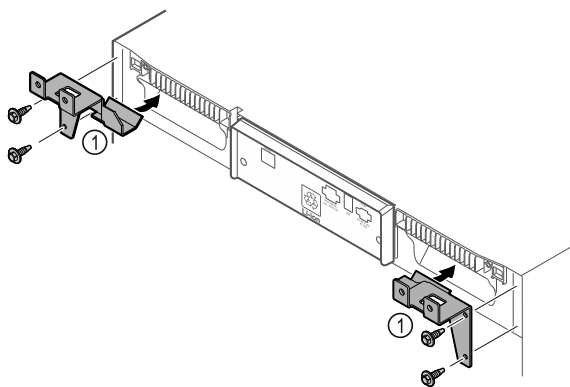

Fig. 52
- Assemble the retaining parts Fig. 52 (1) with the self-tapping screws on the appliance.